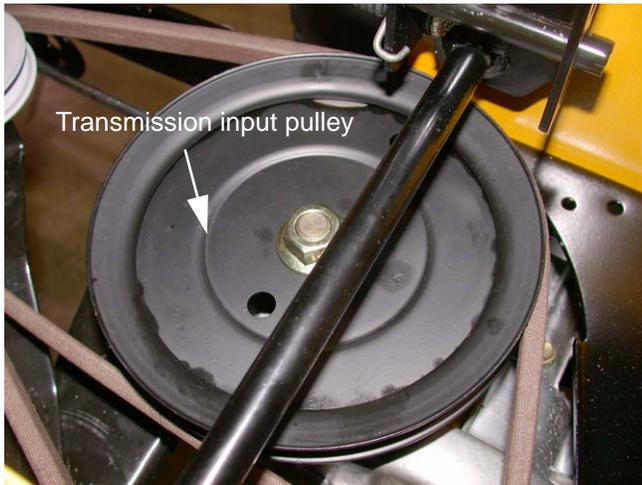

Figure 17.6
17.6. Using the slack created by taking the belt off the tensioner pulley, slip the belt off of the transaxle input pulley and the upper sheave of the variable speed pulley and remove the belt from the tractor. You may need to remove the transmission input pulley to get enough clearance to remove the belt. See Figure 17.6.